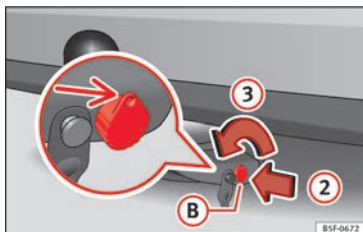

Fig. 187 Releasing the lock.
- Insert key (B) into the lock in the direction of arrow (2) » Fig. 187.
- Turn the key in the direction of arrow (3) until the part of the key with the holes is facing upwards.